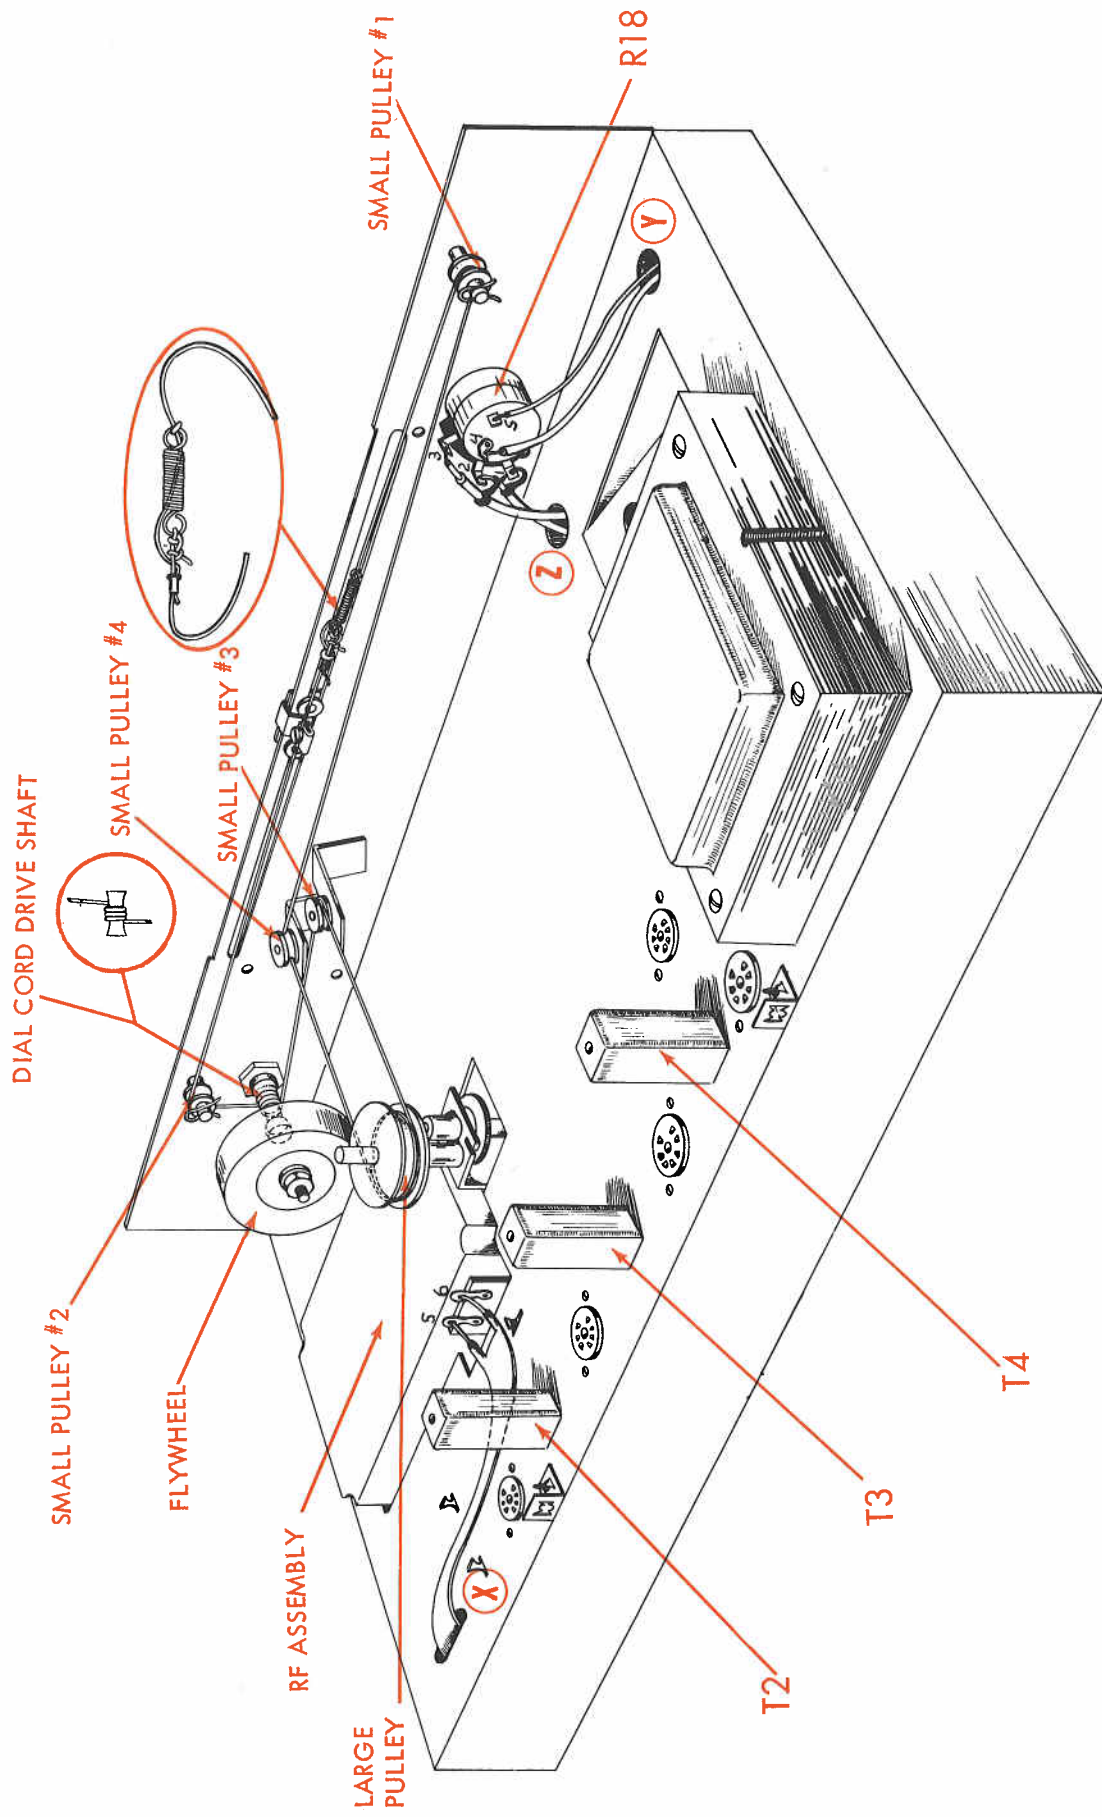

Fig. 9
1. ( ) Fig. 9. Tie one end of the dial cord to the spiral tension spring with a double knot\*. Place some nail lacquer on the knot and the loose string end coming off the knot to avoid loosening and unraveling. Thread the other end of the dial cord through the eyelet and then slide the eyelet up to the knot. Pass the loose end coming off the knot through the eyelet also. \*IMPORTANT NOTE: Make the double knot so that no more than 1/2" of loose cord end is obtained.
2. (✓) Fig. 9. Remove the cotter pin on small pulley 1 and remove this pulley temporarily. Hook the free end of the spring on the groove in the small pulley 1 shaft.
3. (✓) Fig. 9. Bring the free end of the dial cord over and around the top of small pulley 2 (1/4 turn), and then straight down to the dial cord drive shaft. Wind the dial cord three times around the drive shaft in a clockwise direction as seen from the front. Wind it so that each successive turn is further toward the chassis rear than the turn made before it. Do not allow one turn to cross over another.
4. (✓) Fig. 9. Next, bring the free end of the dial cord over to the front side of small pulley 3 and around it (1/4 turn).
5. (✓) Fig. 9. Now bring the free end of the dial cord straight back to the large pulley and wind it around the large pulley 1 1/2 turns. Do not allow one turn to cross over another.
6. (✓) Fig. 9. Next, bring the free end of the dial cord straight forward to small pulley 4 and around it (1/4 turn).
7. ( ) Fig. 9. Now bring the free end of the dial cord straight left, back to the location of small pulley 1. Unhook the spring from the small pulley 1 shaft and then use the left hand to hold both ends of the dial cord taut. With the right hand, restore small pulley 1 to its shaft.
8. ( ) Fig. 9. Now pass the spring-attached end of the dial cord to the right hand and with the left hand pass the free end of the dial cord under and around small pulley 1 (1/2 turn). Now adjust the position of whole dial cord so that the free end of the spring is from 1/2" to 3/4" away from small pulley 1 with no slack in the cord and little extension of the spring.
9. (✓) Fig. 9. Next, pass the free end of the dial cord through the hook on the free end of the spring and make a loose, temporary knot.
10. (✓) Fig. 9. Now, move the tuning eye carriage to the extreme left hand side of the slot (88 mc end). Note that the dial cord spring should be situated about mid-way between the tuning-eye carriage and small pulley 1. Loosen the screw and washer at the top of the tuning eye carriage and slip the upper dial cord string under the forward end of the washer. Re-tighten the screw to fasten the tuning eye carriage to the dial cord.
11. (✓) Fig. 9. Unfasten the temporary knot made in step 9 but leave the dial cord threaded through the spring end. Pull the free end of the dial cord taut until the spring is extended 1/16 to 1/8". Mark the point of contact between spring and dial cord under this condition with a piece of tape or a light crayon. Now disengage the dial cord from small pulley 1 and fasten the dial cord to the spring at the point marked with a single knot. Next, remove small pulley 1 from its shaft to engage the dial cord and then replace it on the shaft with the dial cord engaged. Check to see that the spring is extended to 1/16" to 1/8" as originally intended. If the desired spring extension is not obtained, then loosen the knot and move it away from or towards the loose end of the dial cord as required to increase or decrease the tension. When the desired point is reached, make an additional knot to avoid any slipping and then place some nail lacquer or shellac both on the knot and the loose string end. Then thread the loose cord end through the inside of the spring and through the eyelet on the other side. Draw the loose cord end through the eyelet until there is just a little slack and then crimp the eyelet closed with a long-nose pliers. This will prevent ultimate relaxation of the spring due to over-stretching.
12. (✓) Fig. 9. Now turn the dial cord drive shaft clockwise until the center of the tuning carriage is set at 108 mc on the dial\*. Remove small pulley 1 from its shaft temporarily and hook the dial cord over the bare shaft itself. Then lift up the large pulley for clearance (to avoid friction), and while holding the "front-end" (RF assembly) drive shaft stationary, turn the large pulley until the set screw hole faces to the rear. Then hold the large pulley stationary and turn the "front-end" (RF assembly) drive shaft maximum clockwise without forcing. Now, with the large pulley resting without pressure on the fibre washer beneath it, tighten the set screw in the large pulley. Finally, unhook the dial cord from the bare shaft of small pulley 1. Replace the dial cord around small pulley 1 and restore it to its drive shaft; then fasten small pulley 1 in place with the cotter pin. If the tuning eye carriage has moved from the 108 mc position during these steps, it may now be corrected by loosening the screw fastening it to the dial cord and re-positioning the carriage before tightening the screw again.
13. ( ) Fig. 9. The dial cord stringing is now completed. Check to see that there is no crossing over of the cord between small pulley 1 and small pulley 2, that there is no crossing over of turns on the dial cord drive shaft or the large pulley, and that the dial cord is actually seated in the groove of each of the smaller pulleys.